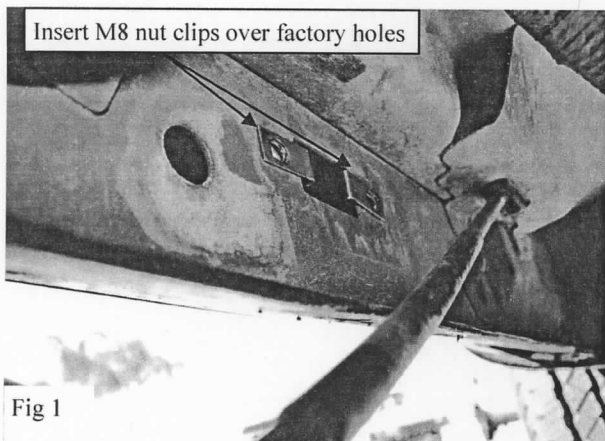

Fig 1
2. Starting on the drivers side, locate the square hole located in the rocker panel and remove the tape covering it, take (2) M8 nut clips and place them into the two round holes located vertically into the rocker panel. Fig 1